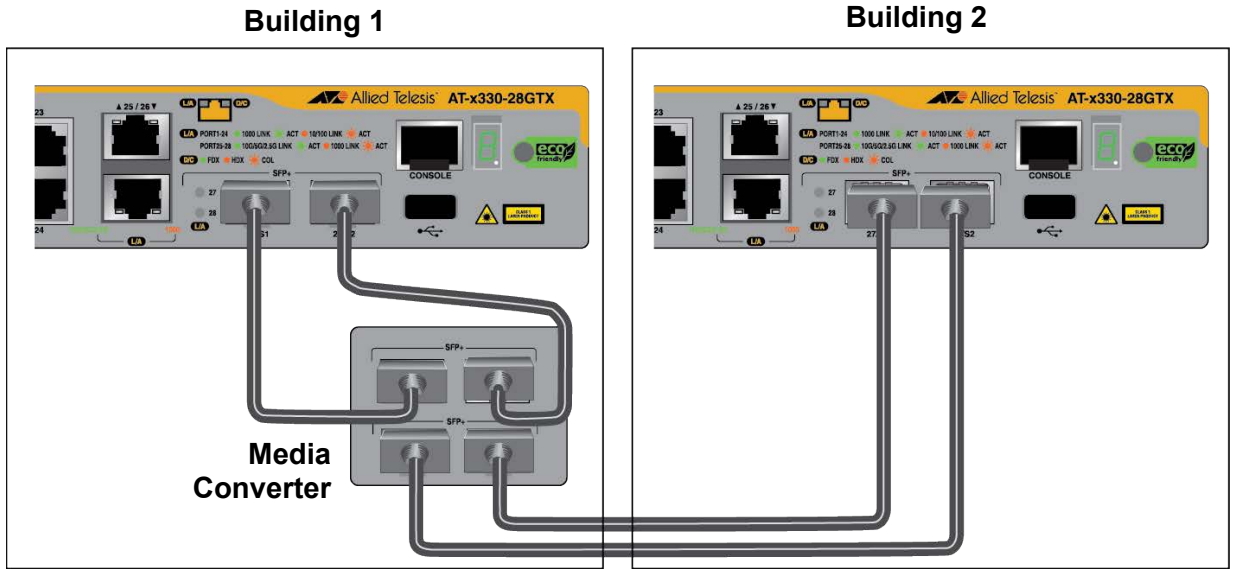

Figure 23. Unsupported Trunk with a Network Device Between Trunk Ports
- ❑ Trunk links must be direct connections between trunk ports. There cannot be any network devices, such as media converters, routers, or other Ethernet switches, between trunk ports. The trunk in Figure 23 on page 53 is unsupported because the trunk ports are connected to a media converter.